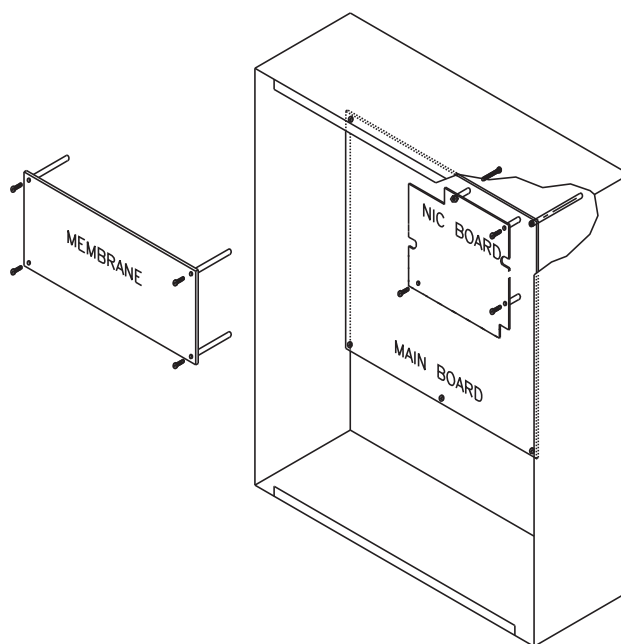

Figure 2-33. NIC Installation
Refer to Figure 2-33 before you install the NIC and perform the following procedure to install the NIC on the ARIES's printed-circuit board.
3. Remove the NIC from its shipping carton and locate the three plastic standoffs included in the installation kit. Insert these standoffs into the three mounting holes in the PCB as shown in Figure 2-33.